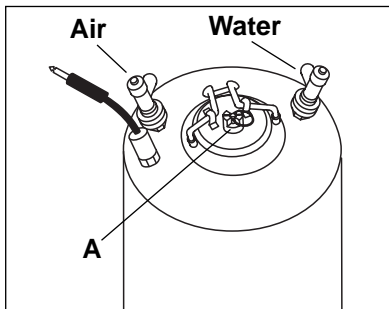
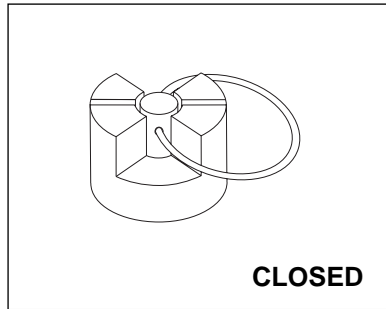
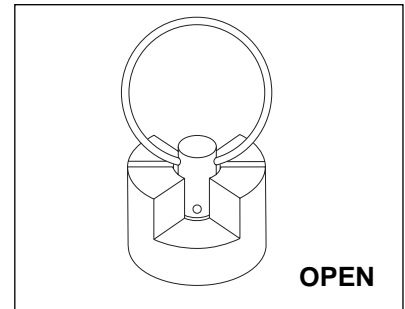

Figure 5.4
Figure 5.5
Figure 5.6
1. Check position of relief valve (A) (Figure 5.4). If valve is closed (Figure 5.5), pull and twist pressure relief valve one quarter turn (Figure 5.6). Listen for an audible hiss.
Do not unscrew pressure relief valve from the water canister lid (A) (Figure 5.4).